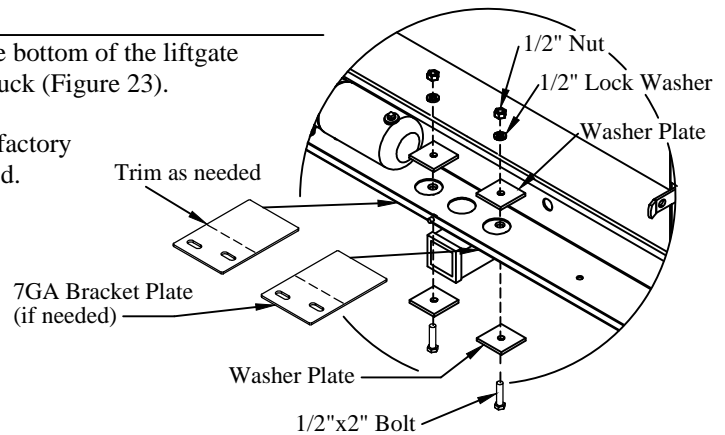

Figure 23: Lower bracket support (Class 5 hitch).
1. **Assemble** the supplied hardware through the outer two holes in the bottom of the liftgate mainframe and the two holes in the factory hitch plate on the truck (Figure 23).